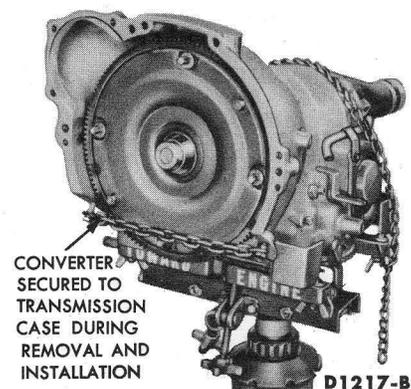

FIG. 4—Transmission Mounted in Jack
21. Secure the converter to the converter housing and lower the transmission (Fig. 4).
1. Secure the converter to the transmission (Fig. 4).